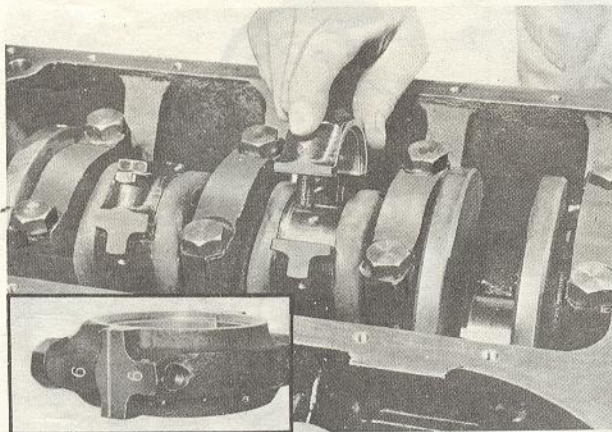

Fig. 1-49 Installing connecting rod cap
3. Install the caps to the connecting rods, ensuring that the **identification numbers are matched**, as shown in Fig. 1-49.